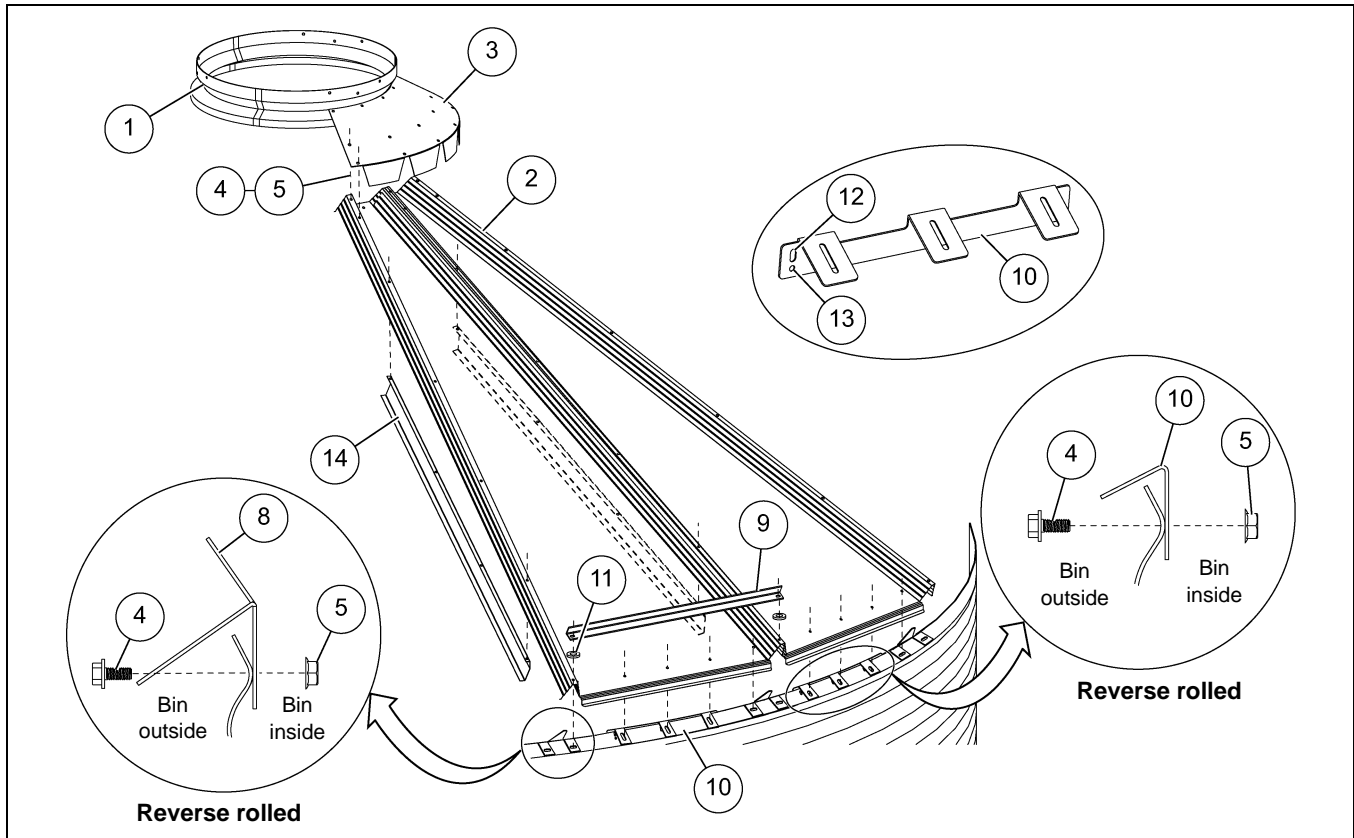

Figure 11C Roof Panel Assembly (For 24' Diameter Bins)
**NOTE:** Make sure to install the roof steps (9) when assembling roof panels (2). When assembling the roof steps (9), use 5/16" x 1-1/4" bolts with a flat top washer on top of the slot and an extra neoprene washer (11) between the roof and the roof step (9). This will ensure a more protective seal against moisture.
**NOTE:** For 24' diameter bins an additional roof channel (14) must be installed under the ribs of the roof panel where the roof steps are to be installed. Start the roof channel (14) assembly using the second hole in the roof panel (2) rib from the bottom (roof eave). (See Figure 11C.)